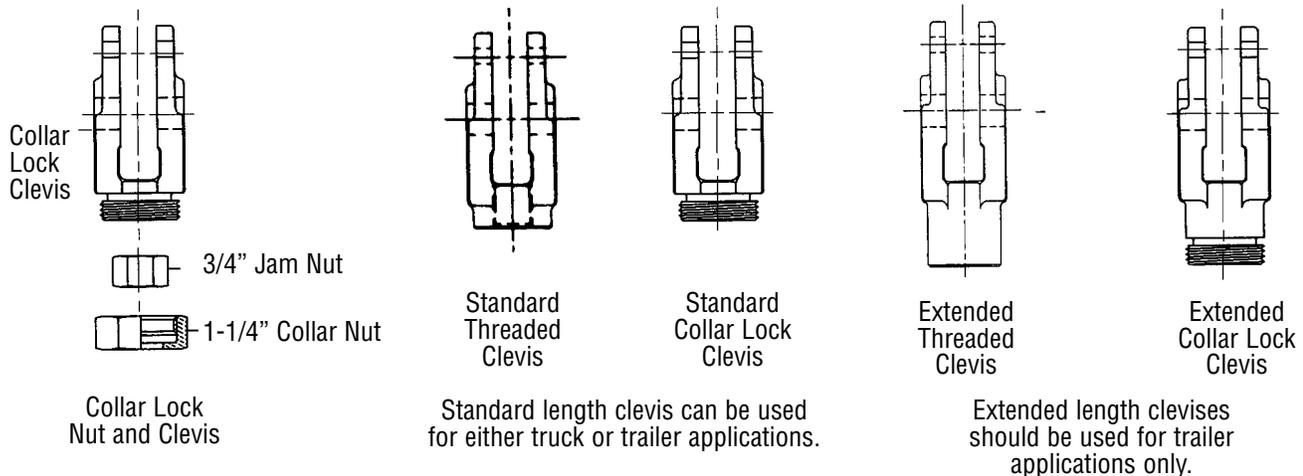

Figure 2
4. Refer to Figure 2 and determine if your CSI Midland/Gunite automatic brake adjusters are equipped with the threaded clevis or the collar lock clevis (extended or standard length). Refer to the correct installation procedure for the style of clevis used.